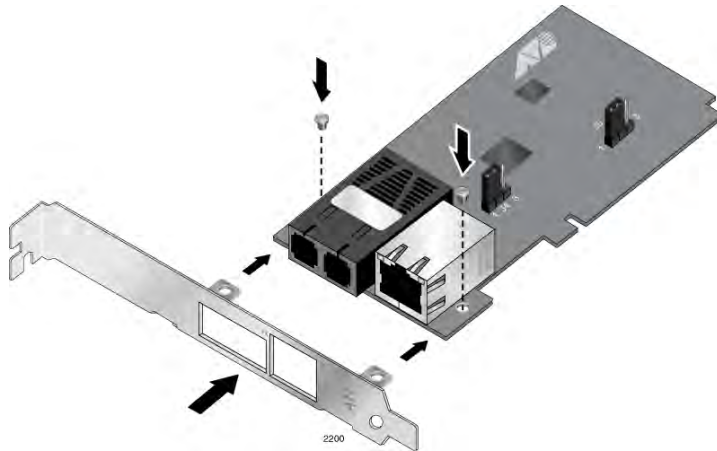

Figure 7. Installing the Standard Bracket
2. Align the tabs of the standard bracket with the holes on the adapter and fasten the screws onto the adapter. See Figure 7.